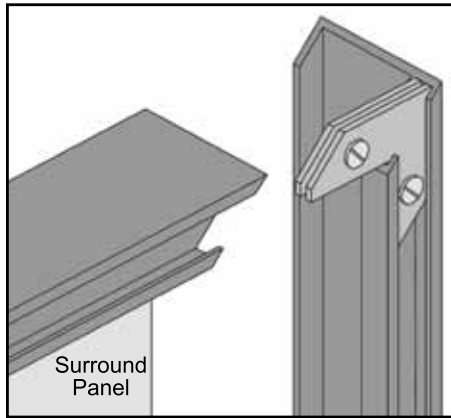
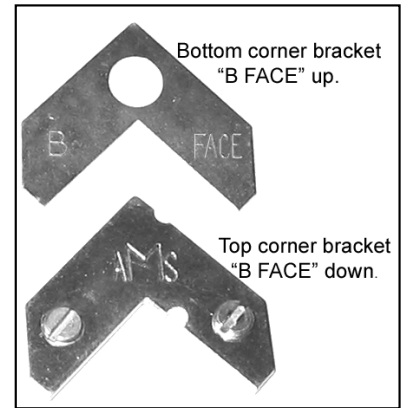

Figure 29: Corner brackets for trim.
Figure 30: Two pieces of corner bracket.
1. Attach one side trim to the top trim, using a corner bracket (see Figure 29) to secure pieces together. There are two (2) main pieces to each corner bracket (see Figure 30). When installing the corner pieces into the trim, the "B FACE" sides must face each other and the screw heads are to face out. With the bracket in place and the top and a side trim snug together, use a flat head screwdriver to turn the two (2) screws in the bracket to tighten it into the trim. Do not over-tighten the corners or the side trim cannot be removed during servicing.